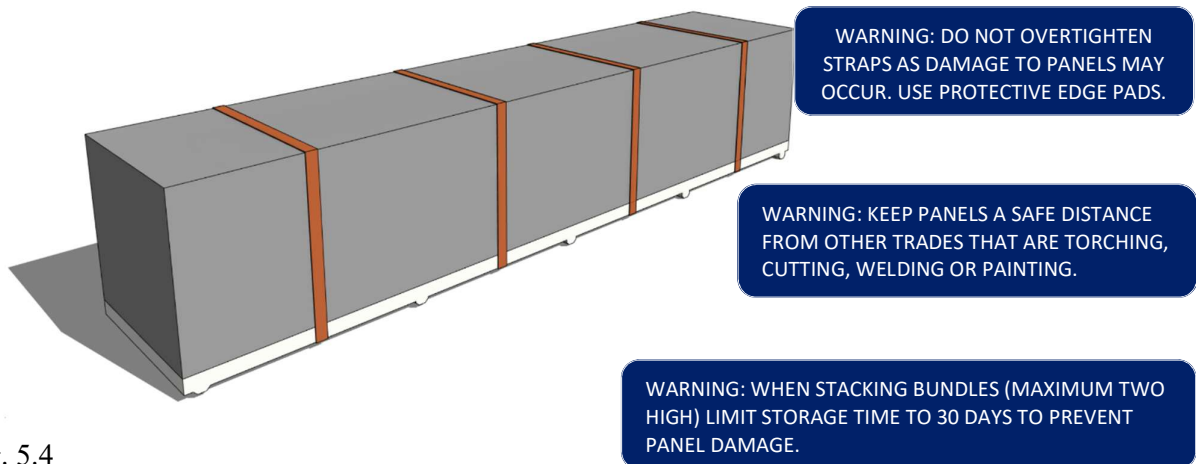

Fig. 5.4
5.4 Cover opened bundles at the end of the day with a tarp. Secure the bundle with straps to protect against weather damage as shown in Figure 5.4.